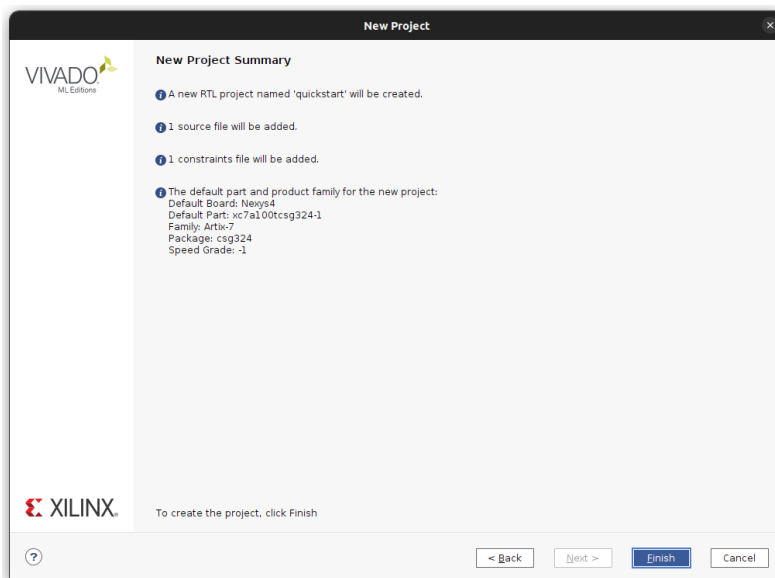

Figure 5: Project Summary
8. The creation assistant is now done. Check your project summary to the figure 5